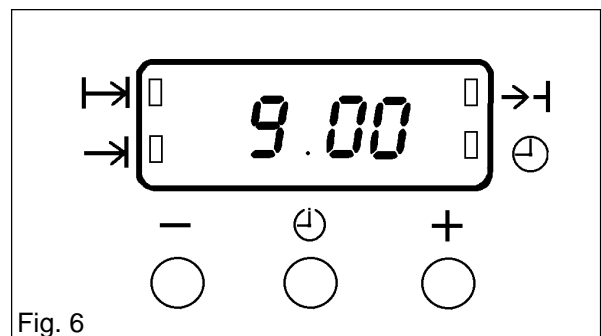

Fig. 6
- i) Ensure the electricity supply is switched ON and that the correct time of day is displayed, e.g. 9.a.m. as Fig. 6.